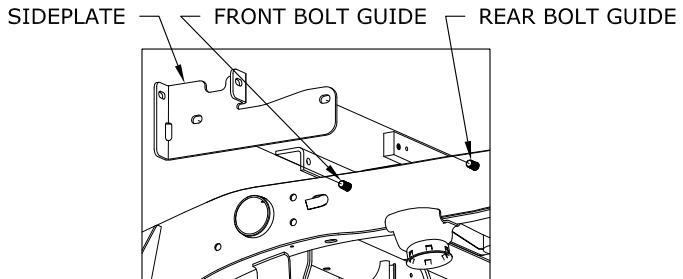
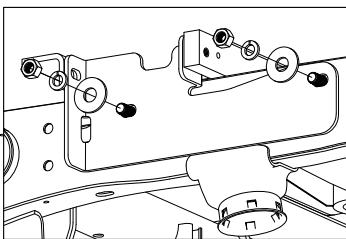
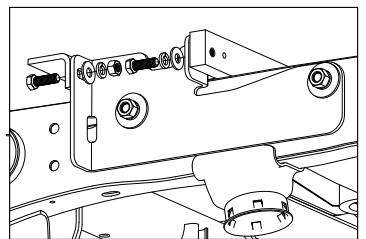

FIGURE C9: View from outside of Driver Side Frame
FIGURE C10: View from outside of Driver Side Frame
FIGURE C11: View from outside of Driver Side Frame
- Install the side plates.** Place each side plate over the  $\frac{5}{8}$ " bolts held in place by the bolt guides, see figure C9. Attach the side plates to the frame with a flat washer, lock washer, and nut, see figure C10. Attach the side plates to the front and rear cross members with  $\frac{1}{2}$ " hardware as shown in figure C11. Do not tighten the  $\frac{5}{8}$ " or  $\frac{1}{2}$ " hardware at this time.